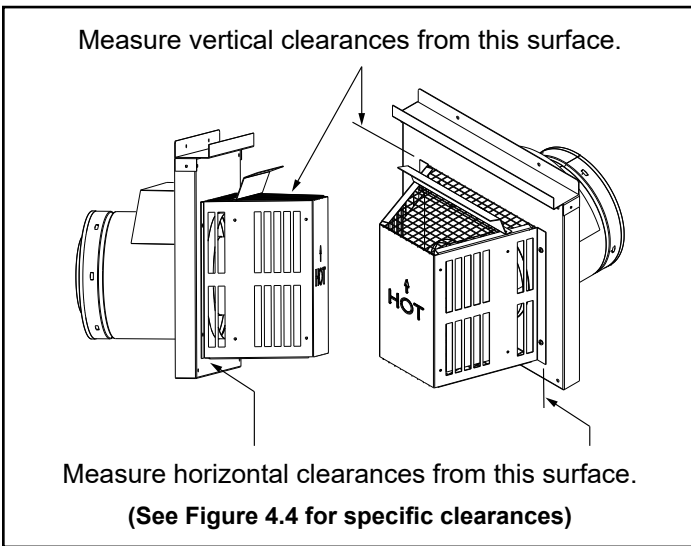

Figure 4.1
2. Horizontal terminations are measured to the outside mounting surface (flange of termination cap) (see Figure 4.1) on page 9.